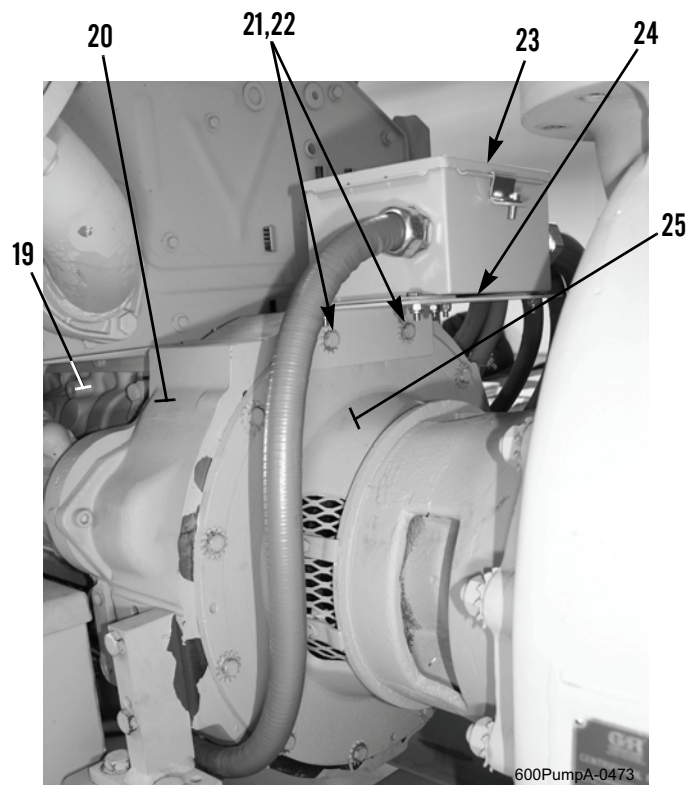

Figure 11. Engine and Intermediate Housing.
4. Lift engine (Figure 11, Item 19), position on trailer chassis, and align flywheel housing (Figure 11, Item 20) with intermediate housing (Figure 11, Item 25). Align coupling assembly and move engine rearward until flush with intermediate housing.
5. Cut tiedown strap and reposition junction box mounting bracket (Figure 11, Item 24) with junction box (Figure 11, Item 23) at intermediate housing (Figure 11, Item 25).
6. Loosely install 12 new T-type lockwashers (Figure 11, Item 22) and capscrews (Figure 11, Item 21) on intermediate housing (Figure 11, Item 25), junction box mounting bracket (Figure 11, Item 24), and engine flywheel housing (Figure 11, Item 20). DO NOT fully tighten capscrews.